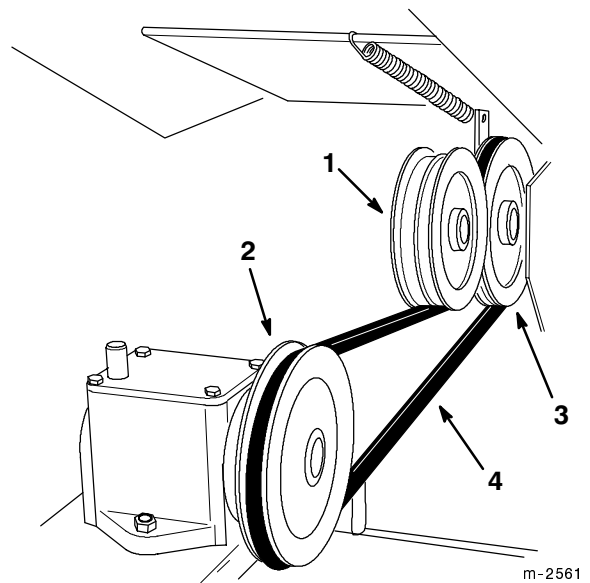

Figure 28
2. Hold the idler pulley up and install the new drive belt onto the traction unit output pulley and gearbox input pulley (Fig. 28).
3. Release the idler pulley to allow it to spring back on top of the drive belt (Fig. 28).